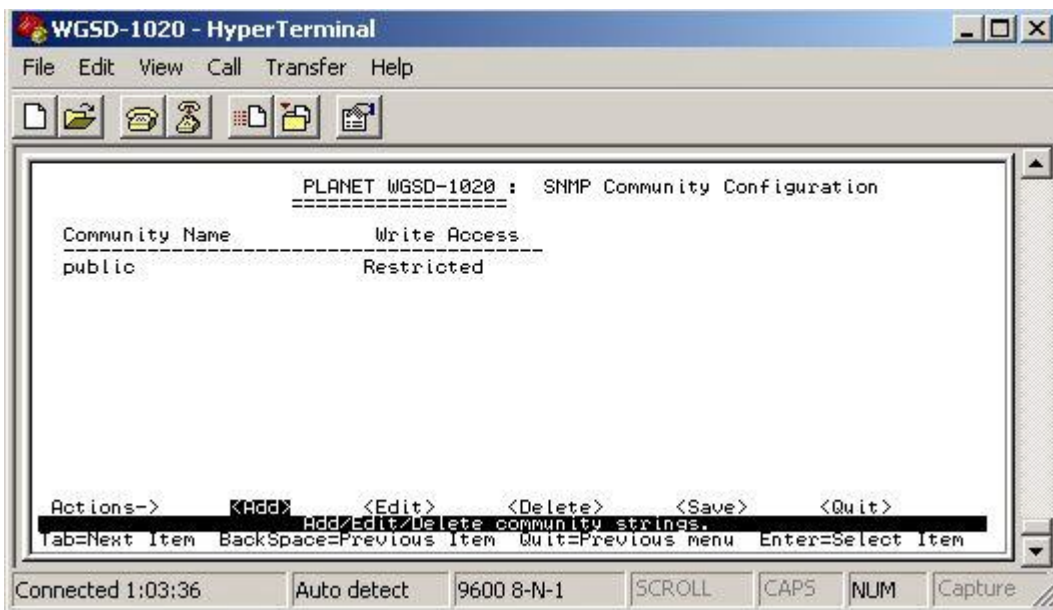

**Figure 4-57** System Options configuration save successfully screen
2. After setup completed, press” **Ctrl-A**” to “**Action menu**” and choose “**save**” to save the current configure. The screen in Figure 4-57 appears.